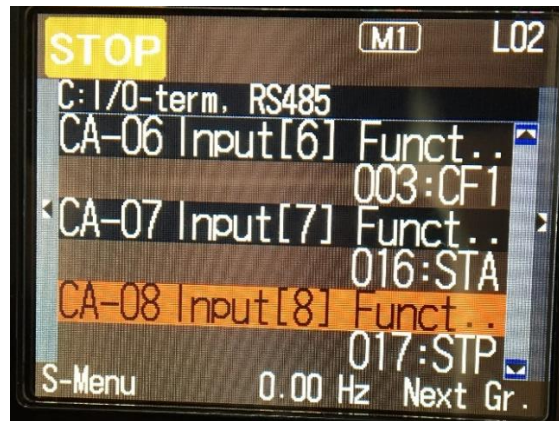

Figure 36: Input Terminal Configuration
6.6.1.16 **Select and Set CA-08: Input [8] Function to 017: STP (Stop) and Save (F2).** See *Figure 36* below for confirmation.